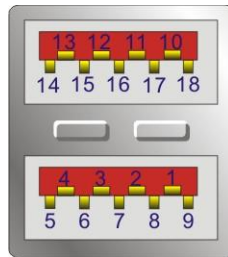

Figure 3-34: External USB 3.2 Gen 2 Connectors Location
- CN Location:** See Figure 3-34